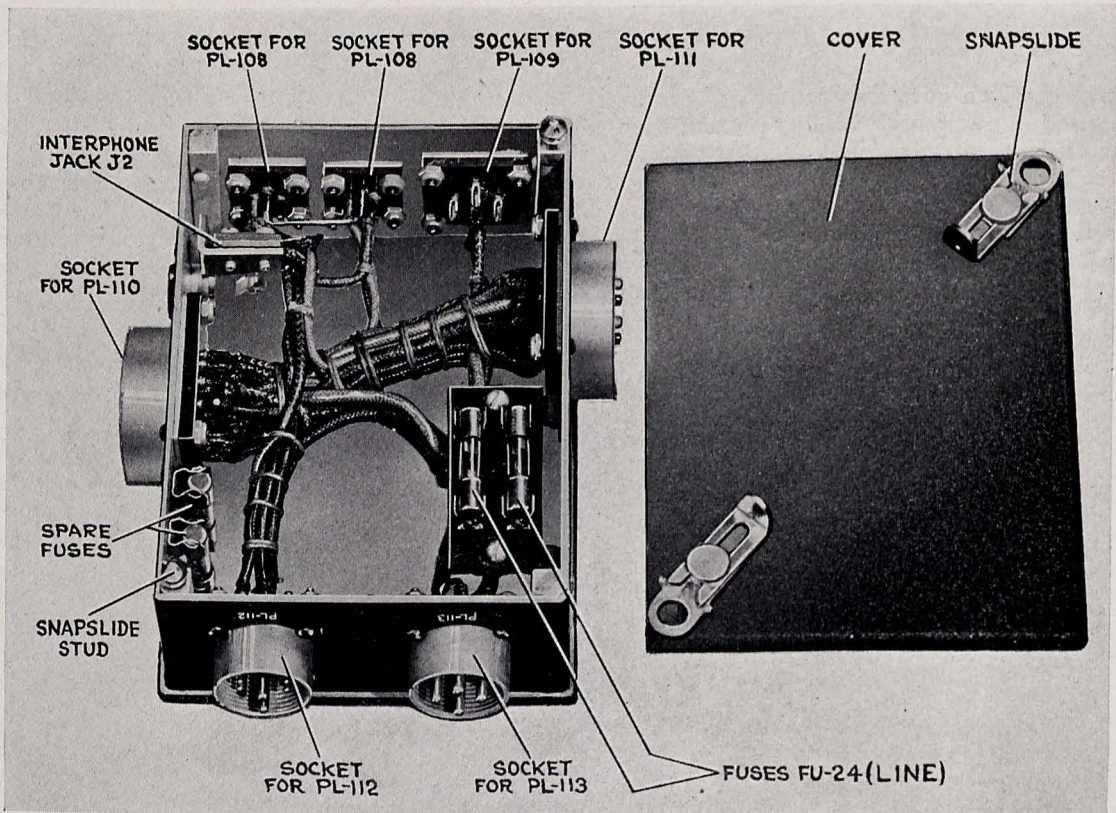

Figure 17—Junction Box TM-180-A, Interior
- 2-9 **JUNCTION BOX TM-180-A (INCLUDING 4 FUSES, 2 IN USE, 2 MOUNTED SPARES).**—The junction box is furnished primarily for use as test equipment but is adaptable to aircraft installations not supplied with built-in connector panels or junction boxes. The cover is completely removable and is normally secured in place by snapslides which should be safety wired when installed in aircraft. The box contains four 15-ampere, 25-volt glass cartridge type Fuses FU-24. Two are used, one in each side of the low voltage supply line and two spare fuses are mounted in clips. These fuses are specially designed to withstand the vibration encountered in aircraft. A jack J2, for Plug PL-55 provides the interphone connection. The box is provided with all the sockets necessary for interconnection with the components of Radio Compass SCR-242-A, the primary source of power supply, the marker beacon receiver and the marker beacon indicator. (See Figure 17 and Diagram, Figure 28.)